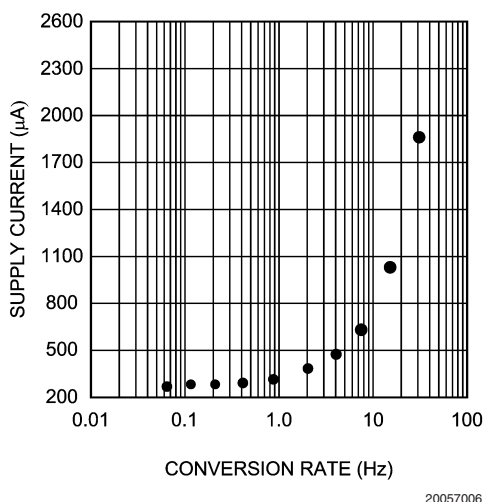

FIGURE 2. Supply Current vs Conversion Rate
The LM63 takes approximately 31.25 ms to convert the Local Temperature (LT), Remote Temperature (RT), and to update all of its registers. The Conversion Rate may be modified using the Conversion Rate Register. When the conversion rate is modified a delay is inserted between conversions, the actual conversion time remains at 31.25 ms. Different Conversion Rates will cause the LM63 to draw different amounts of supply current as shown in Figure 2.